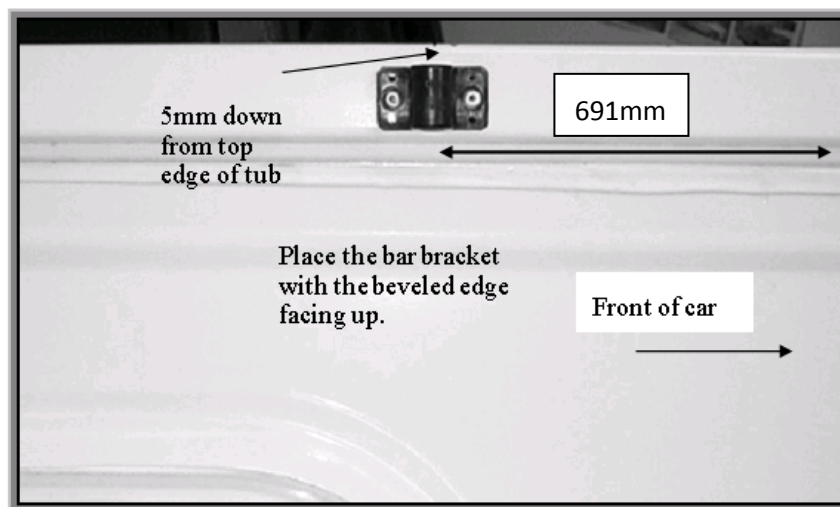

Figure 2: Placement of bar bracket
5. With a pencil mark the inside edge on each side of the tub at 691mm from the inside front face of tub towards the rear on each side. Centrally locate the bar bracket over this position and align the top of the bar bracket 5mm down from the top edge of the tub and drill and rivet bracket into place. **See Figure 2.** Repeat for other side of tub. Fit tonneau support bar to bar brackets.